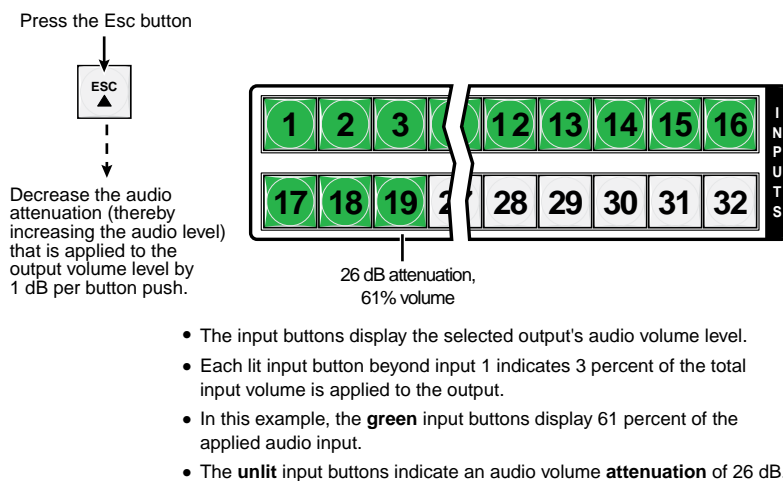

Figure 3-71 — Adjust the output audio volume
- Press and release the Esc (▲) button once (figure 3-71) to increase the volume by 1.5%.
Press and release the Esc (▲) button several more times (figure 3-71) to increase the volume by 1.5% per button press. Note the input button indication changes that occur each time the Esc (▲) button is pressed and released.
Figure 3-71 show the result of pressing the Esc (▲) button a total of 13 times from the volume displayed in figure 3-68.
Figure 3-72 shows the same volume (61%) as in figure 3-71, but displayed on a 16-input-button switcher, such as a CrossPoint Ultra 168 HVA.
Figure 3-73 shows the same volume (61%) as in figure 3-71, but displayed on a 12-input-button switcher, such as a MAV Plus 128 RCA.